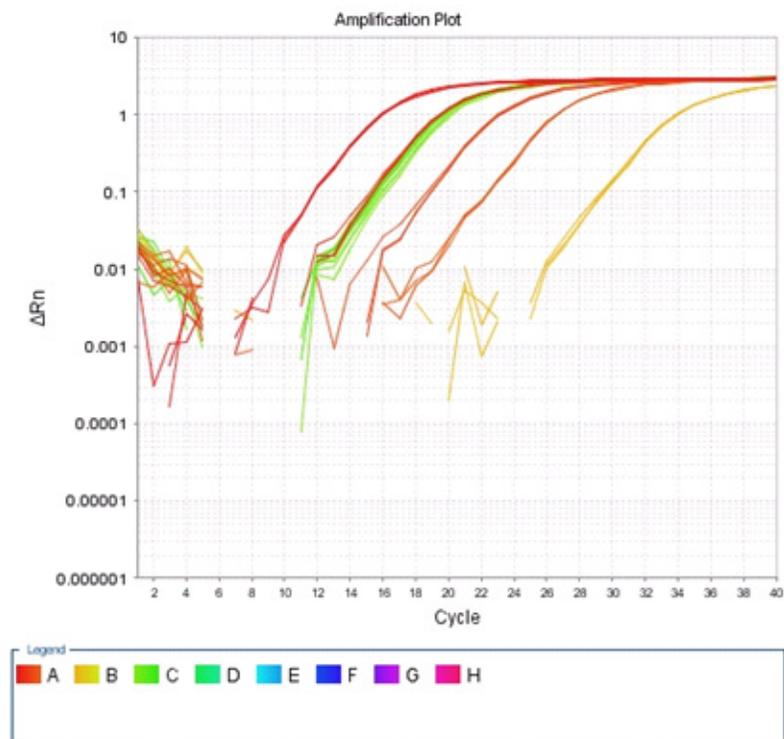
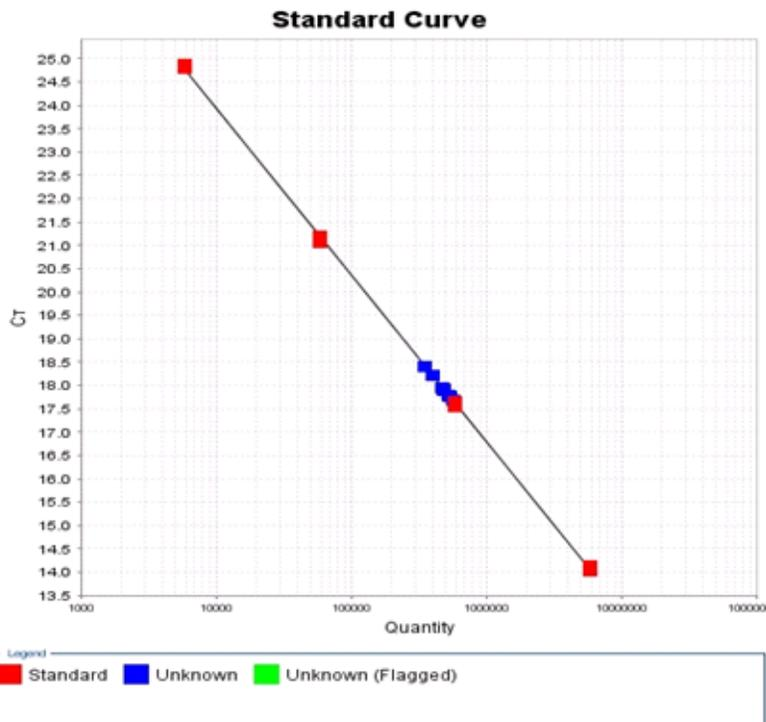

Figure 24 Sample amplification plot.
Figure 25 Sample standard curve.
1. After the qPCR run is finished, click **Analysis**. Select the wells in **View Plate Layout** by *click+drag*. Click **Amplification Plot** or **Standard Curve** to view the analysis results (for examples, see Figure 24 and Figure 25 on page 172).